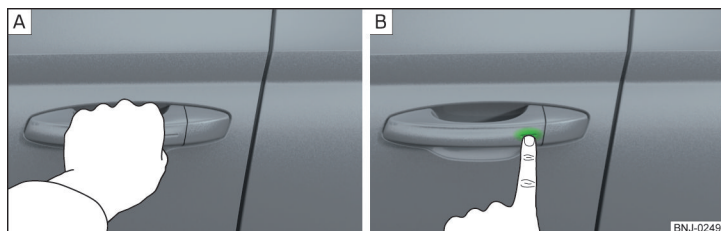

Fig. 31 Vehicle unlocking / vehicle locking
- Grip the door handle to **unlock** » Fig. 31 **A** the vehicle.
- Touch the sensor on the door handle with your finger to **lock** » Fig. 31 - **B** the vehicle.